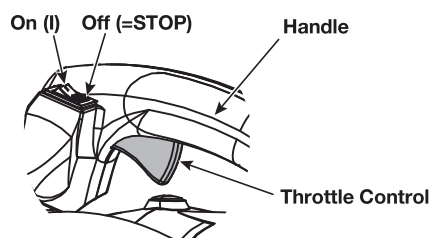

Fig. 9
Note: There is no need to turn the unit on. The On/Off switch is in the ON (I) position at all times (Fig. 9).